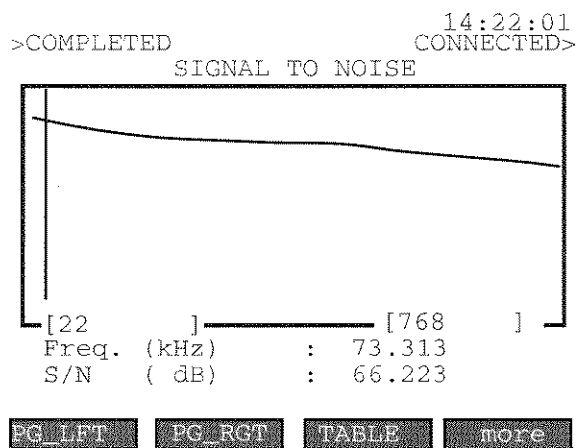

Figure 6-19 Signal to Noise Result for ADSL DMT PSD
- 4) The results show a signal-to-noise (dB) vs. frequency plot. Refer to Figure 6-19.